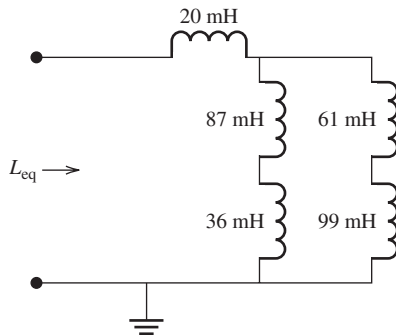

FIGURE P4.48 Circuit for Problem 4.48.
- 4.48 (A)* (Application) oil pipeline, running from Mosul, Iraq to Beirut, Lebanon is being restored so it can be placed back into service. A new pump is needed to replace a broken one. A large electric motor is needed to drive this pump. The motor has the equivalent circuit as shown in Figure P4.48. Solve for the equivalent inductance.